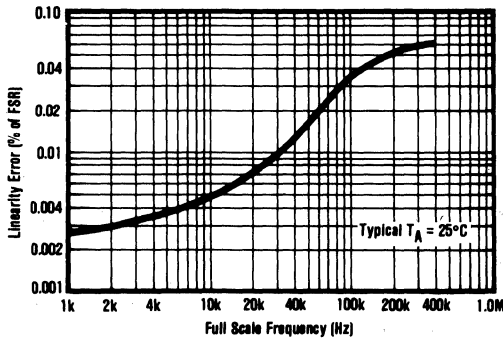
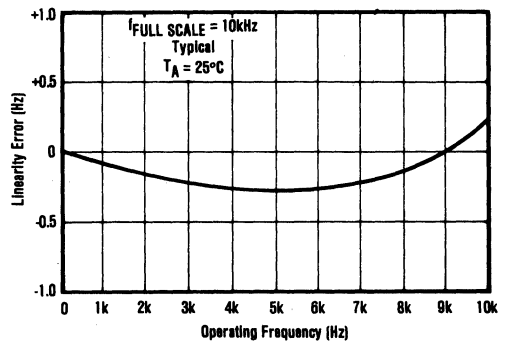

FIGURE 6. Linearity Error vs Full Scale Frequency.
FIGURE 7. Linearity Error vs Operating Frequency.
7.1 **Linearity.** Linearity is the maximum deviation of the actual transfer function from the straight line intersecting 90% of the full scale frequency (90% of full scale input) and 0.1% of the full scale frequency (\approx zero input). Linearity is the true measure of a VFC's performance. Linearity error is a function of the full scale frequency as shown in Figure 6. For a given full scale frequency the linearity error decreases with decreasing operating frequency as shown in Figure 7. To allow the user to benefit with improved linearity at lower frequencies, linearity error is specified in bands of operating frequency (see Table I).